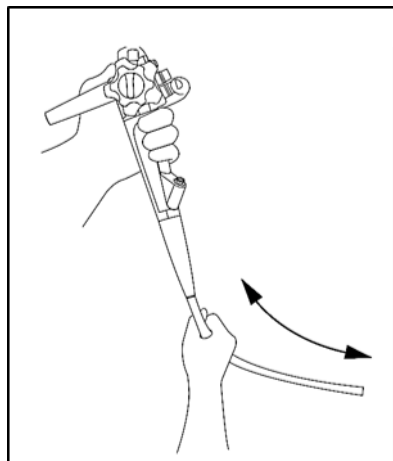

Figure 3.2
4. Gently stroke the entire surface of the insertion section in both directions (Figure 3.2). Make sure there is no object or inserted wire protruding from the clamp. And make sure the insertion section is not unusually stiff.